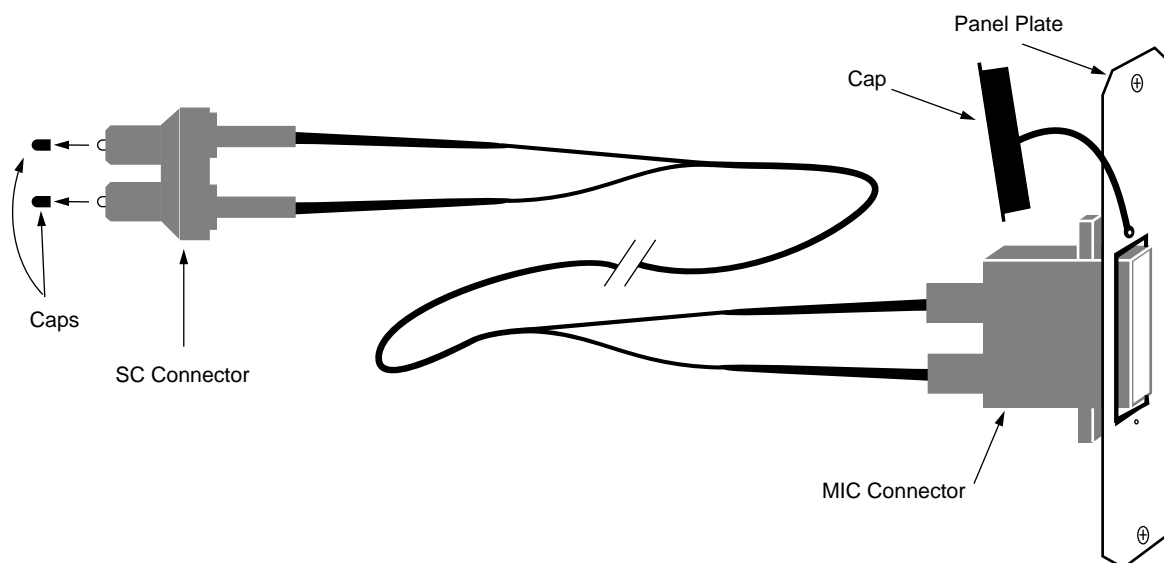

Figure 2-5 IRIS ATM Internal Cable Assembly
8. From the sheets of labels, remove a small-sized label with the identification created in the previous step. Attach the label to the outside of the ATM I/O panel plate that is attached to the internal cable assembly (illustrated in Figure 2-5).
1. Locate the internal cable assembly that consists of two fiber optic lines terminated inside an SC connector at one end and a MIC receptacle attached to the ATM I/O panel plate at the other end, as illustrated in Figure 2-5.